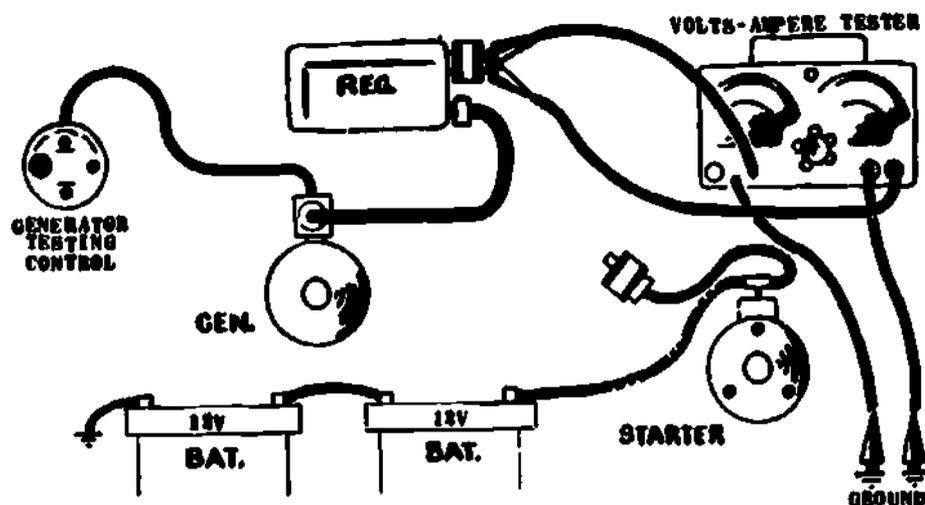

Fig 1-22. Current regulator test.
8. Current regulator test (fig 1-22). Current flow creates heat; for example, current flowing through the conductor in a light bulb causes it to become white-hot and produce light. It is possible for the generator to build up sufficient current to melt the metal in it, therefore the current must be controlled to prevent damage. The current regulator prevents the generator from exceeding its safe output when the battery is in low state of charge or when the electrical load exceeds the maximum safe output.